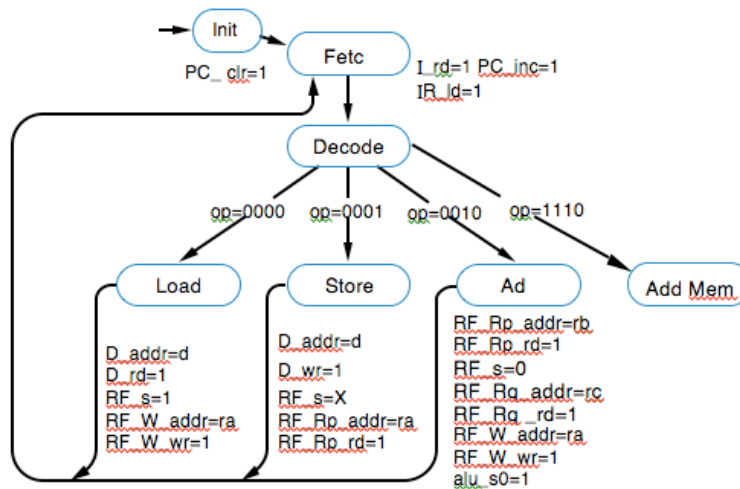

Figure 2: Finite state machine to revise.
5. Finally, update the finite state machine to support this new ALU instruction. For reference, the FSM for the 3-instruction processor for the original datapath is shown in Fig. 2. You probably want to refer to your answer for Part 1.